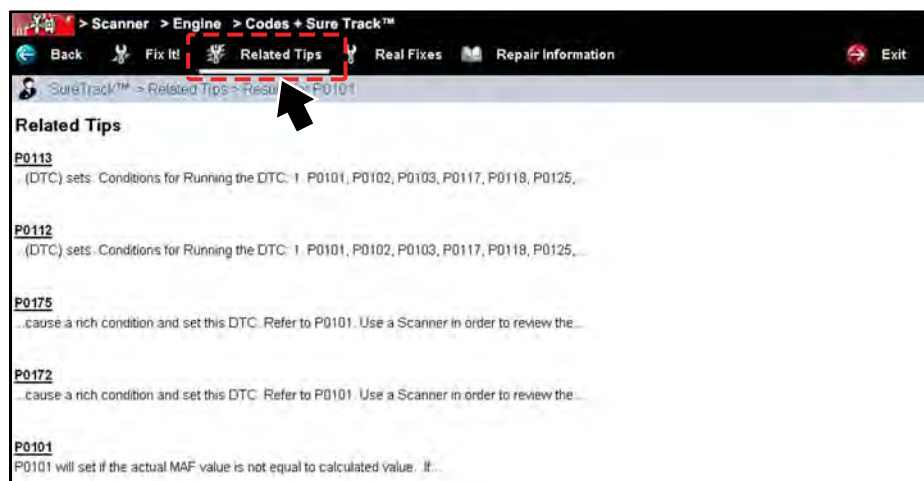

Figure 15-3 Related Tips Screen
**Related Tips**—opens a list of tips that may include information that is related to the current DTC (Figure 15-3).